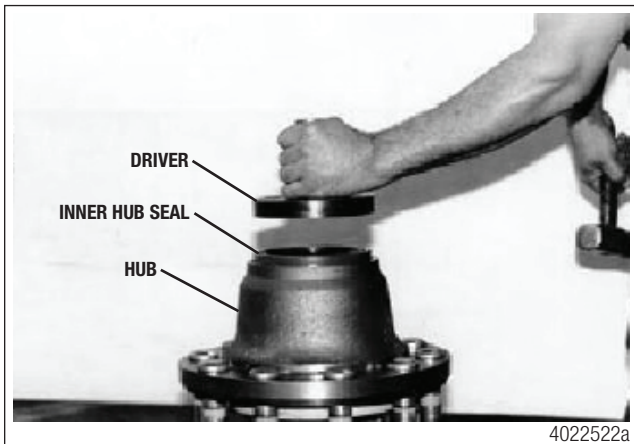
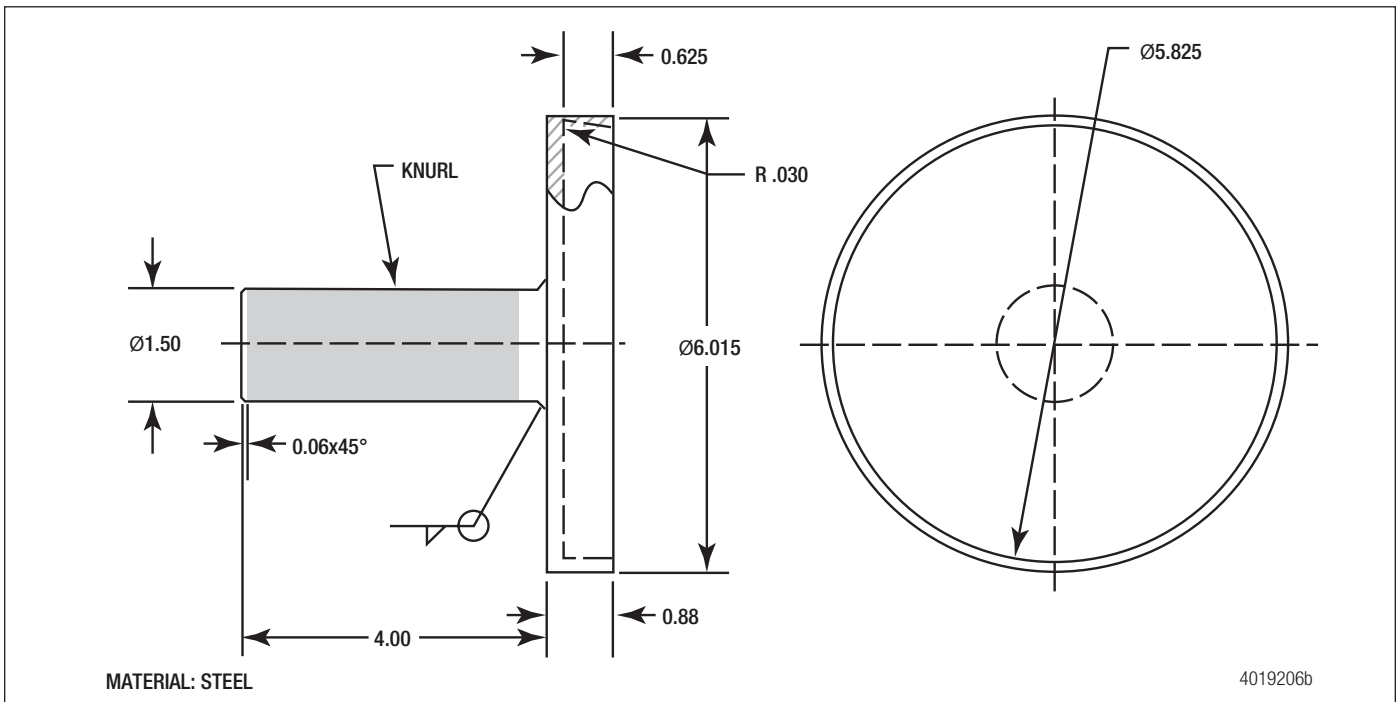

Figure 37
Figure 42
5. Use hub seal driver (350-0882) to drive the seal on the hub assembly until completely seated. Figure 37. Refer to Figure 42 for a tool drawing.